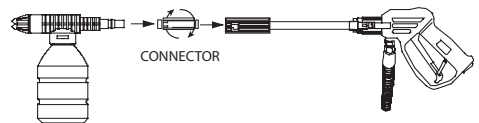

Figure 6 - Attach applicator to gun
4. Attach detergent applicator to gun using connector. (figure 6)